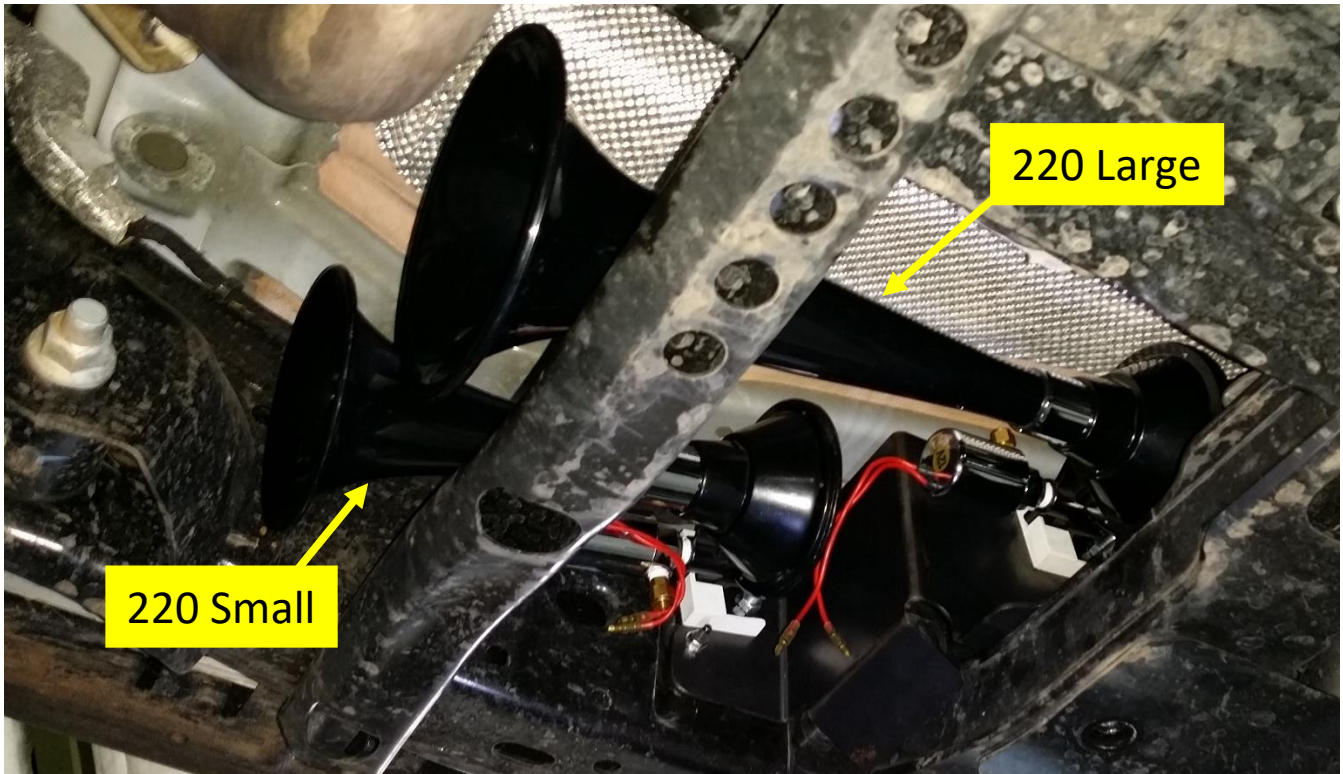

Figure 12 - Horn Trumpets Installed
- 10.1.9. Thread Trumpets into correct Horn Drivers, as shown in Figure 12 below; tighten Trumpets snugly with both hands.